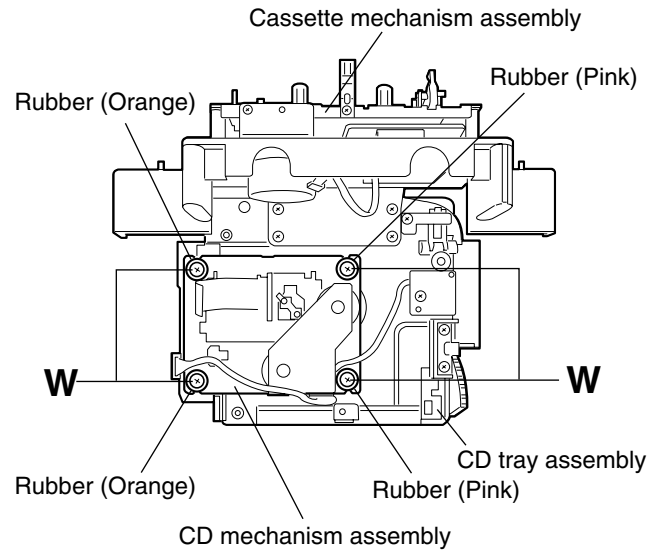

Fig.26
■ Removing the CD mechanism assembly (See Fig. 26.)